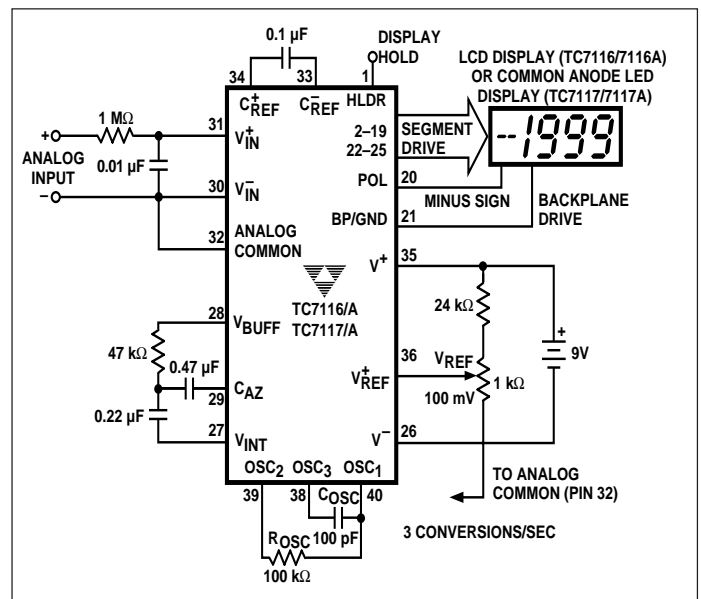

Figure 1. Typical TC7116/A/7/A Operating Circuit
- Unless otherwise noted, specifications apply at TA = +25°C, fCLOCK = 48 kHz. TC7116/TC7116A and TC7117/TC7117A are tested in the circuit of Figure 1.